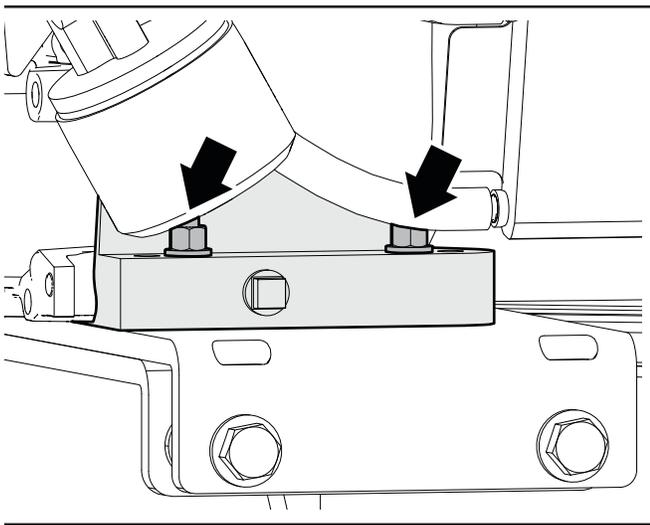

Figure 41—Engine mount bolts (two of four)
3. Loosen (do not remove) the four bolts that attach the engine mount to the machine frame. See *Figure 41 on page 59*.
1. Loosen (do not remove) the four engine mount bolts. See *Figure 41 on page 59*.